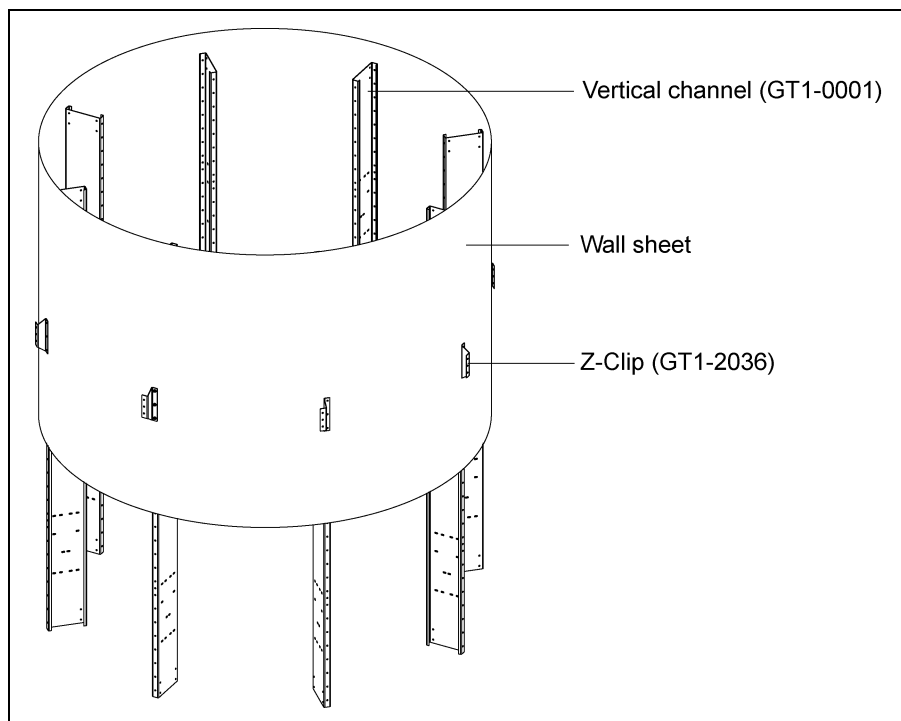

Figure 4A
1. Bolt Z-clip (GT1-2036) to all vertical channels (GT1-0001). The Z-clip can be installed on each vertical channel as wall sheets are installed using 3/8"-16 x 1" YDP grade 8 or grade 8.2 bolts (S-7927) and 3/8"-16 ZN grade 5 nuts (S-968). (See Figure 4A and Figure 4B.)